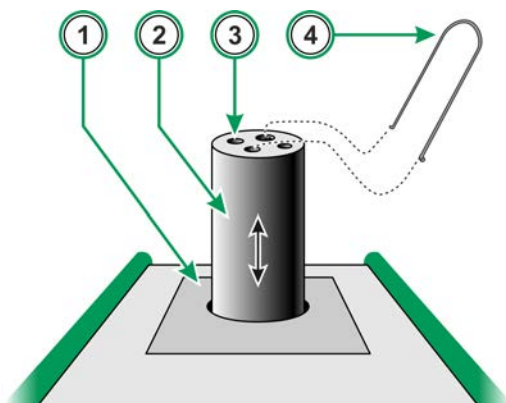

Figure 3: MC6-T, top view
1. **Temperature Block**. See also Figure 3: MC6-T, top view.